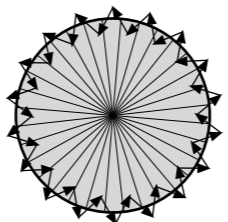

FIG.18
- Walk from outside across to the detection pattern until red LED or green LED turns on for approx. 2sec then off, the next trigger should be 2sec interval (See FIG.18).
- Walk from outside across to the detection pattern until load turns on for approx. 2sec then off, the next trigger should be 2sec interval (See FIG.18).